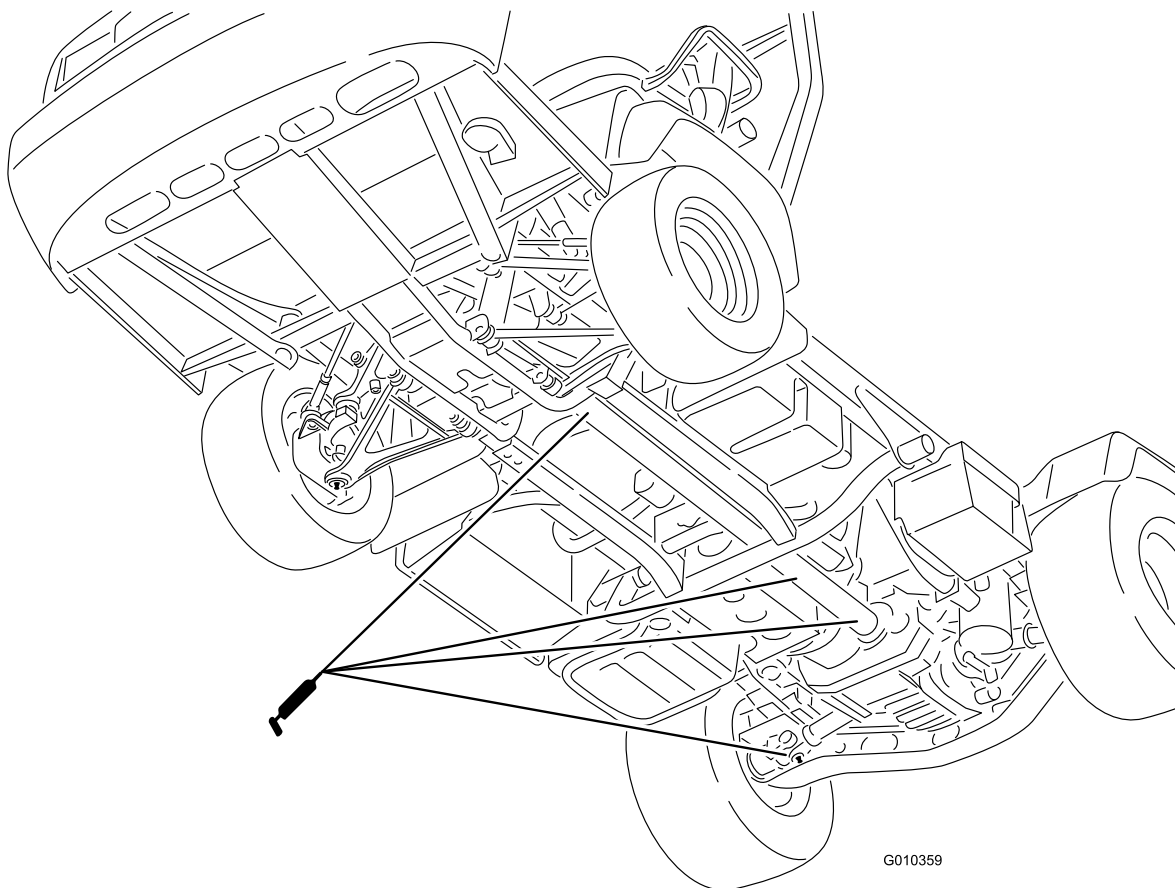

Figure 39
- U-joint (18), and 4 wheel drive shaft (3) (Figure 39)